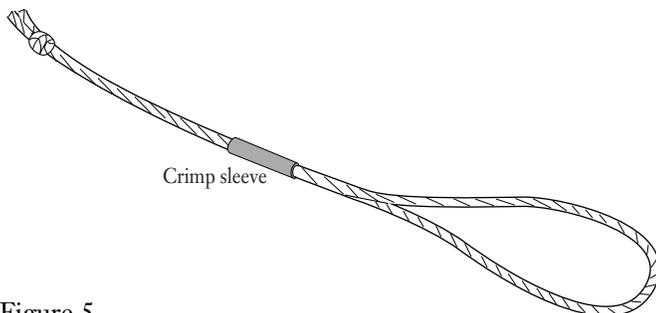

Figure 5
- 5.2 Feed the loop of pull line through the crimp sleeve (Figure 5).